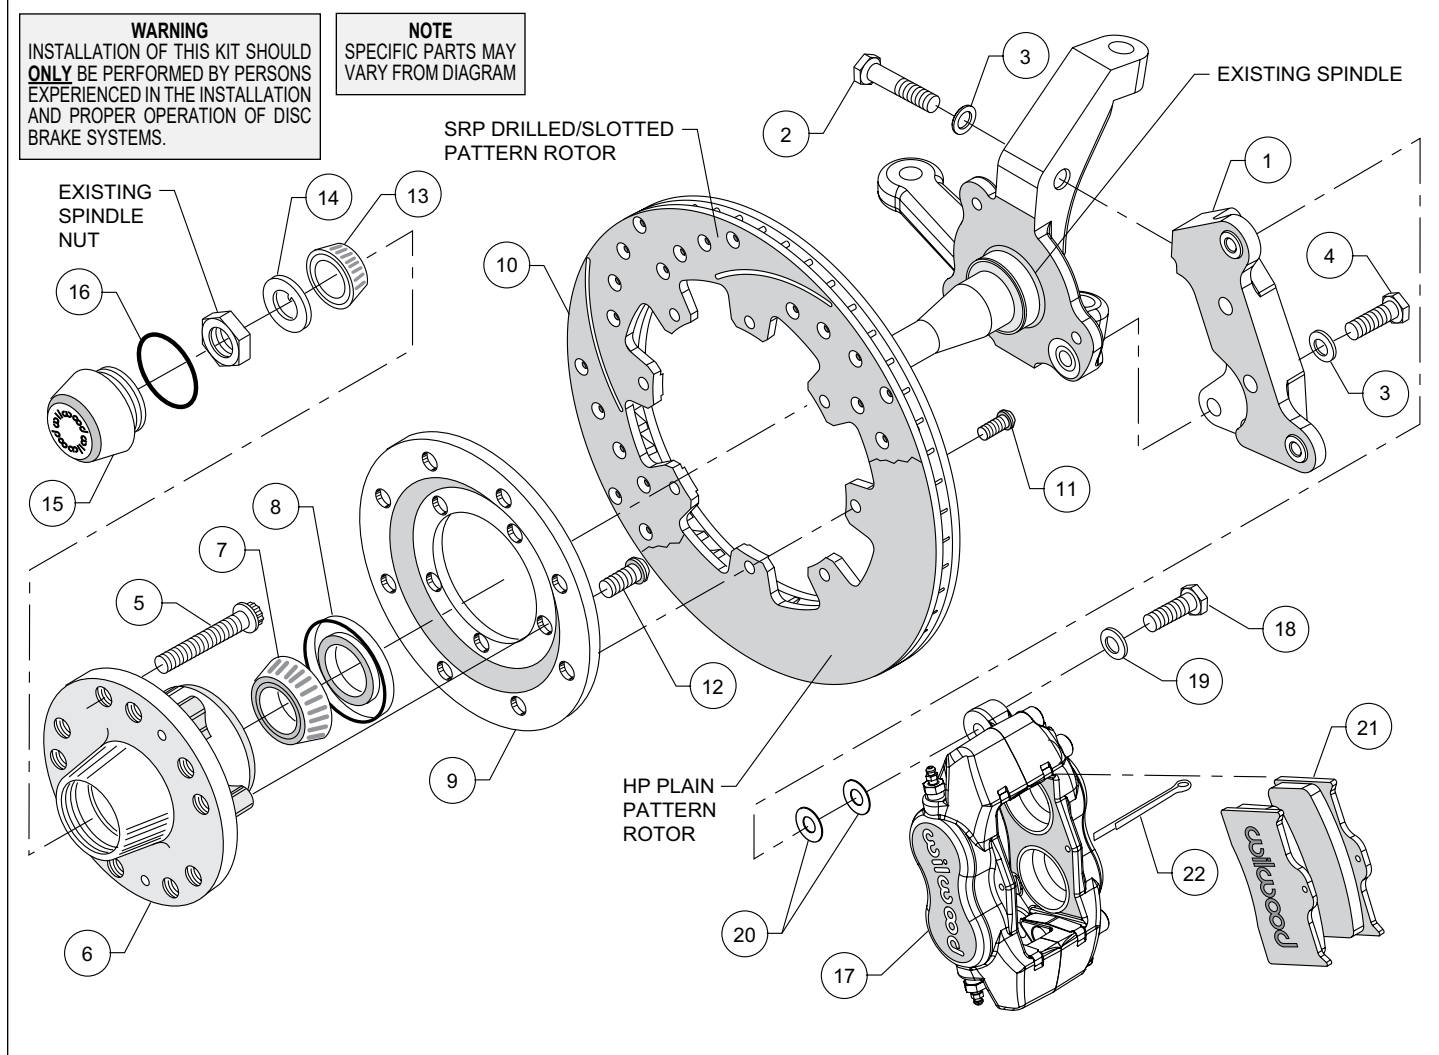
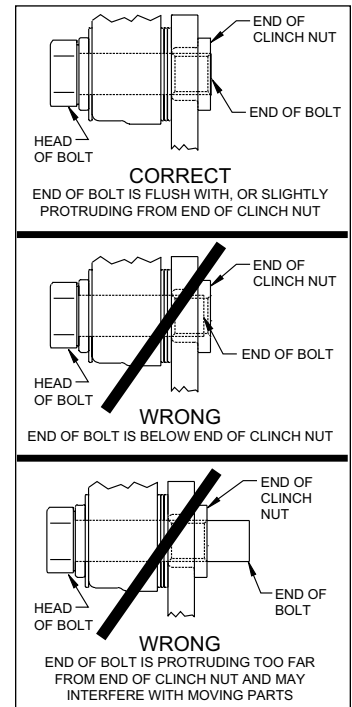

Figure 1. Typical Installation Configuration
Figure 3. Clinch Nut Engagement Diagram
NOTE: Numbers in parenthesis refer to the parts list and Figure 1 on the preceding pages.
CAUTION: All mounting bolts must fully engage clinch nuts. Be sure to check that all bolts are either flush or protruding through flanged side of clinch nut after shimming, Figure 3.
- Orient the caliper mounting bracket (1) on the inboard side of the spindle as shown in Figure 1. Install bracket using bolts (2 and 4), and washers (3), Figure 1. Ensure that the flanged heads of the clinch nuts in the bracket are facing outboard. Temporarily tighten the mounting bolts. **NOTE:** The bracket must fit squarely against the mounting points on the spindle. Inspect for interference from casting irregularities, machining ridges, burrs, etc. Remove bolts one at a time, apply red *Loctite*® 271 to threads, and torque bolts to 55 ft-lb.
- Install wheel studs (5) into the hub (6), Photo 1. Torque to 77 ft-lb. **NOTE:** There are two lug patterns of five holes each in the hub (5 x 4.50 and 5 x 4.75). Make sure of the correct hole pattern for the wheel application before installing the studs into the hub.
- Pack the large inner bearing cone (7) with high temperature disc brake bearing grease (available from your local auto parts store) and install into the backside of the hub (6), Photo 2.
- Install the grease seal (8) by pressing into the backside of the hub (6), flush with the end of the hub, Photo 2.
- Orient the rotor (10) and the rotor adapter (9) as shown in Figure 1 and Photo 3. Attach the rotor to the adapter using bolts (11). Apply red *Loctite*® 271 to the bolt threads and torque to 25 ft-lb using a criss-cross pattern.
- Mount the adapter/rotor assembly (9/10) to the hub (6) using bolts (12), as shown in Figure 1 and Photo 4. Apply red *Loctite*® 271 to the bolt threads and torque to 45 ft-lb using a criss-cross pattern.
- Pack the small outer bearing cone (13) with high temperature disc brake bearing grease and install into front of hub (6). Slide the hub/rotor assembly onto the spindle. Secure using spindle washer (14), stock adjusting nut and nut locking device, Photo 5. Adjust bearings per Original Equipment Manufacturer (OEM) specifications.
- Screw dust cap (15) into hub (6), Photo 6. Friction created by the o-ring (16) on the dust cap keeps it from unscrewing. **NOTE:** *The O.D. of the existing OEM spindle washer may be larger than the I.D. of the dust cap not allowing it to seat against the hub face. Therefore, use the spindle washer (14) supplied with the kit instead of the OEM washer.*
- NOTE:** *Please reference the caution statement at the beginning of the assembly instructions.* Mount the caliper (17) onto the caliper mounting bracket (1) using bolts (18) and washers (19), as shown in Figure 1. Initially place two .035" thick shims (20) on each bolt between the caliper and the bracket, Photo 7. Temporarily tighten the mounting bolts and view the rotor (10) through the top opening of the caliper. The rotor should be centered in the caliper, Photo 8. If not, adjust by adding or subtracting shims between the bracket and the caliper. Always use the same amount of shims on each of the two mounting bolts. **NOTE:** *The end of each bolt must be flush with or slightly protruding from the head of the clinch nut, as shown in Figure 3.* If necessary place spare shims between washer (19) and caliper mounting ear to achieve the proper clinch nut engagement. Once the caliper alignment and clinch nut engagement are correct, remove the bolts one at a time, apply red Loctite® 271 to bolt threads, and torque to 40 ft-lb.
- Install the disc brake pads (21) into the caliper, with the friction material facing the rotor (10), and secure in place using cotter pin (22), Photo 9.